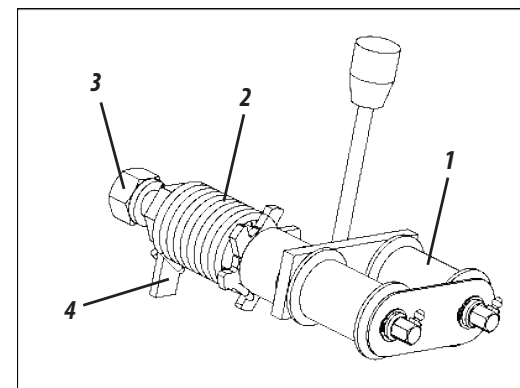

Figure 62
OSCILLATING STRETCHER (FIGURE 62)
The tensioner (1) is equipped with a torsion spring (2) for greater flexibility. If greater pressure is required on the tensioner, loosen the inner nut (3) of the same, turn the shaft (4) passing the spring coupling (2) to the other tooth of the shaft rosette and retighten the inner nut (3), **as shows Figure 62.**